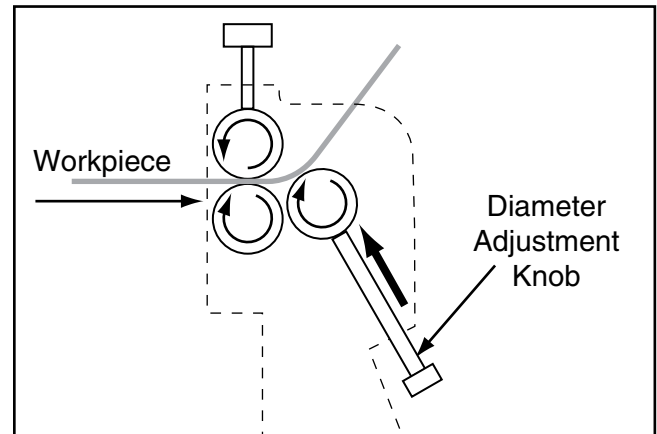

Figure 21. Making initial bend to create cylinder.
4. Turn diameter adjustment knobs clockwise to lift rear roller until desired bend radius is reached, as illustrated in **Figure 21**. Always turn diameter adjustment knobs in equal amounts so rear roller remains parallel with front rollers, or there will be a larger radius on one end of the workpiece than the other, resulting in a cone shape.